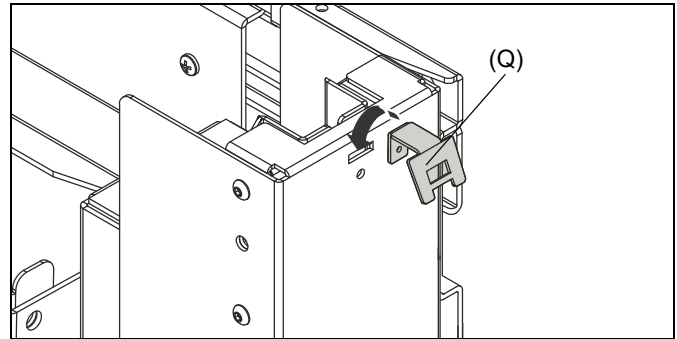

Figure 24
5. Install control pad bracket (Q) at desired control pad location. May be installed on either side, top or bottom, depending on user preference. (See Figure 24)
**NOTE:** The control pad (P) may also be installed to the bottom edge of the display using the double-sided tape (U). If this is desired, plug the switch directly to port A1 or A2 to initialize and route cable after display is installed.